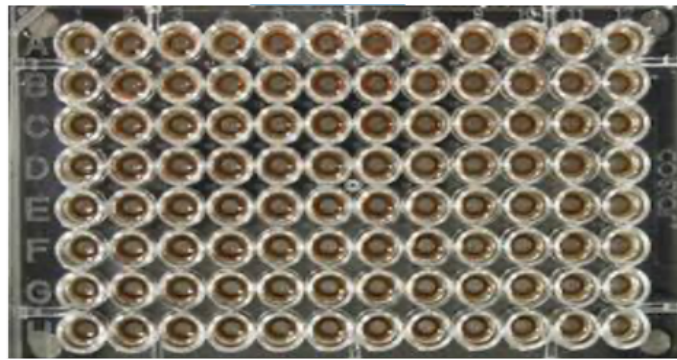

Figure 7: Extraction plate during wash step on magnetic plate.
20. After the 5-minute incubation, remove as much of the supernatant as possible (approximately 400 μ L). Be careful not to disturb or aspirate the beads. See Figure 7.